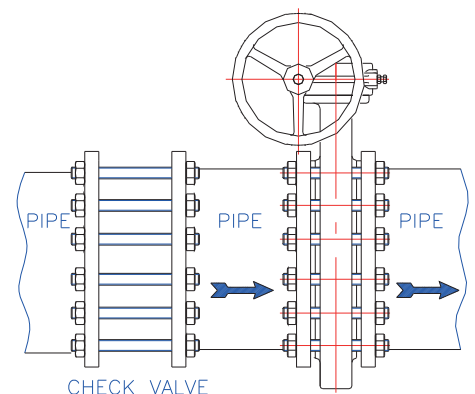

Fig. 8
7.8. Using an extension tube between wafer check valve and butterfly valve, never connect them directly. (Fig.8)